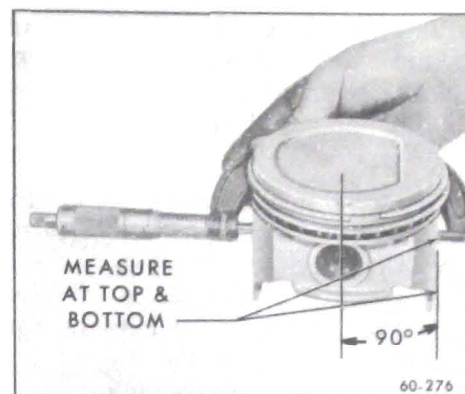

Figure 60-140--Measuring Piston
The pistons are cam ground, which means that the diameter at the right angle to the piston pin is greater than the diameter parallel to the piston pin. When a piston is checked for size, it must be measured with micrometers applied to the skirt at points 90° to the piston pin. See Figure 60-140. The piston should be measured (for fitting purposes) 1/2" below the top of piston.
*No attempt should be made to cut down oversize pistons to fit cylinder bores. This practice will destroy the surface treatment and affect the weight. The smallest possible oversize service pistons should be used and the cylinder bores should be honed to size for proper clearance.* Before the honing or reboring operation is started, measure all new pistons with micrometer contacting at points exactly 90 degrees to piston pin (Figure 60-140) then select the smallest piston for the first fitting. The slight variation usually found between pistons in a set may provide for correction if the first piston has excessive clearance before sediment has a chance to settle.
2. Measure the piston to be installed. See Figure 60-140. The piston must be measured at right angles to the piston pin 2-1/2" below the top of piston. The piston must be between .0005" and .0011" smaller than the cylinder bore.